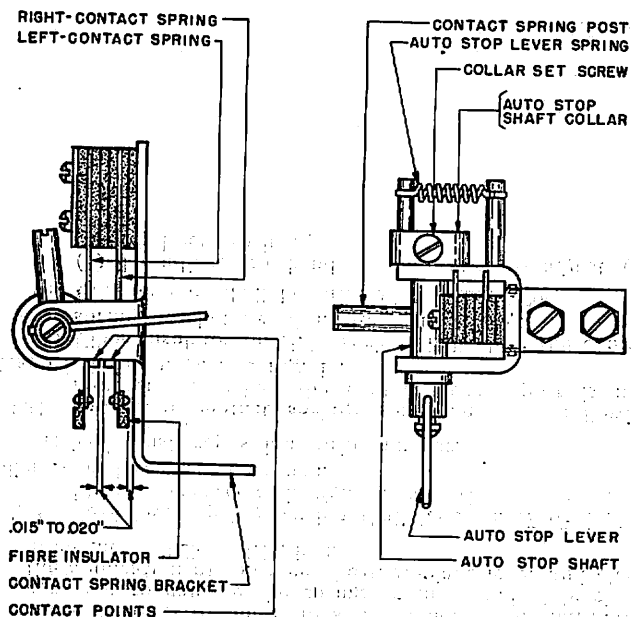

Fig. 14
4.34 **Auto-stop contact springs** shall meet the following requirements when the contact spring post is held clear of the springs. See Fig. 14.
4.35 **Auto-stop lever spring** on older units equipped with a stop lever as shown in Fig. 14 shall exert a tension of Min. 2-1/2 ozs., Max. 3-1/2 ozs., when extended to an over-all length of approximately 3/4" and shall be in a horizontal position when auto-stop contact spring post is in a horizontal position.